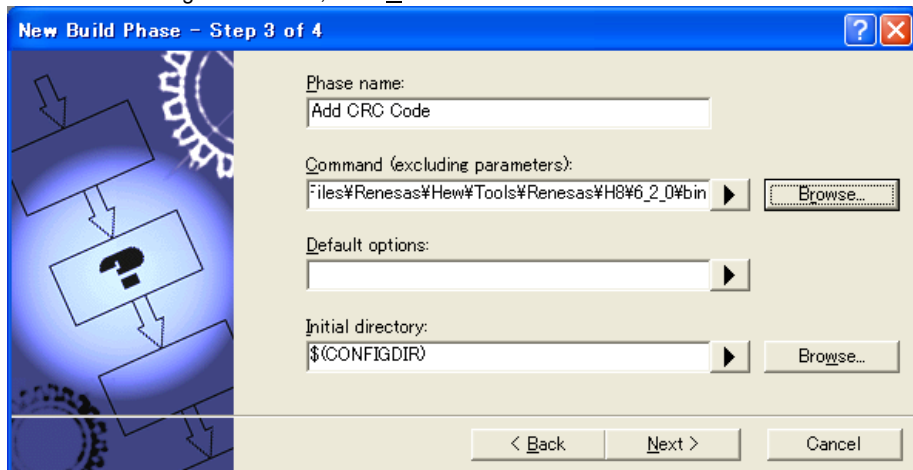

Figure 4 [New Build Phase] Dialog Box (Step 3)
- (4) The dialog box for entering information on the new build phase is opened (Figure 4). Enter the phase name in the [Phase name] field. Although you can enter any name you like, this example assumes the name as "Add CRC Code". Then enter the path to a program file in the [Command] field. The path should be entered as below: